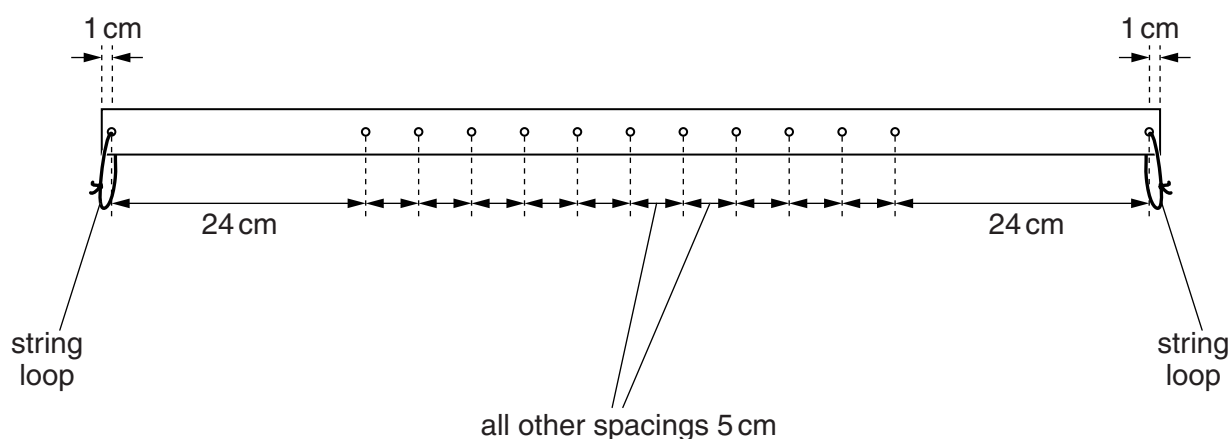

Fig. 1.1
- 1 The wooden strip should have 13 holes drilled through it at the positions shown in Fig. 1.1. The holes should be slightly larger than the diameter of the nail so that the wooden strip pivots freely. String loops of approximate circumference 8 cm should be tied through each of the end holes.